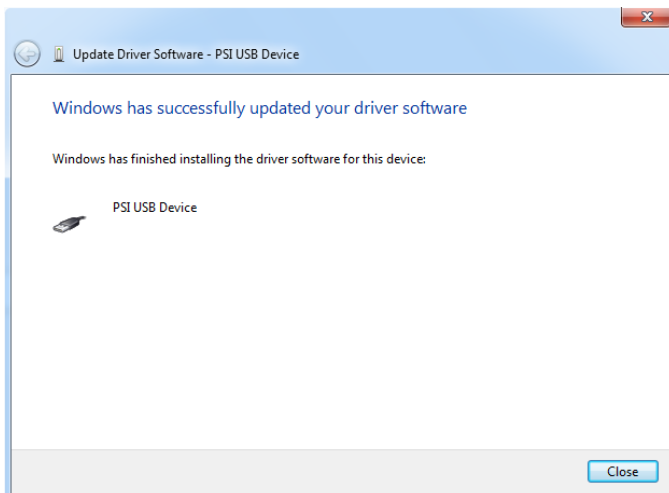

Fig. 19 Complete installation.
- Installation of the driver is now complete (Fig. 19)